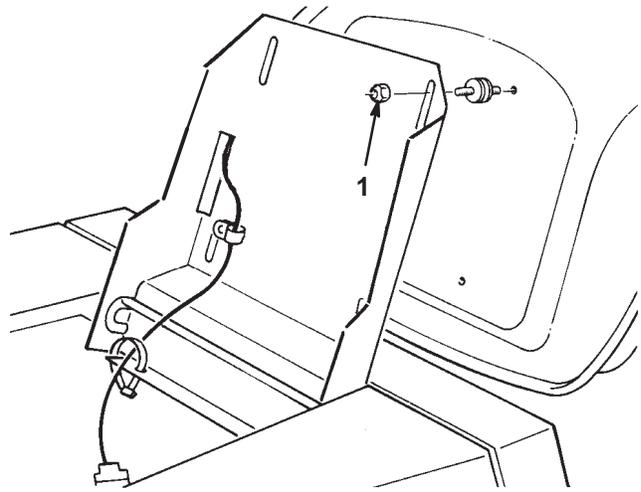

Figure 7
1. Raise the seat and loosen the lock nuts (Fig. 7).